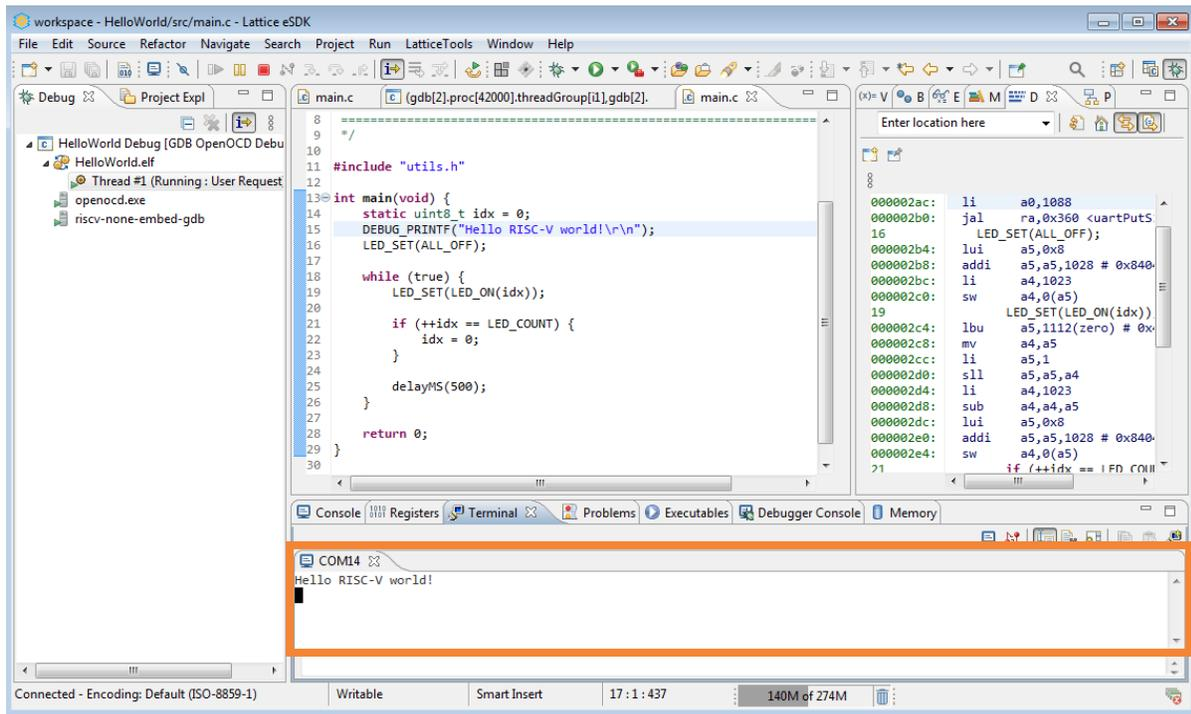

Figure 4.13. Run Result of Hello World Project
- Click the **Resume** icon  on the toolbar. The serial terminal outputs “Hello RISC-V world!” (Figure 4.13).